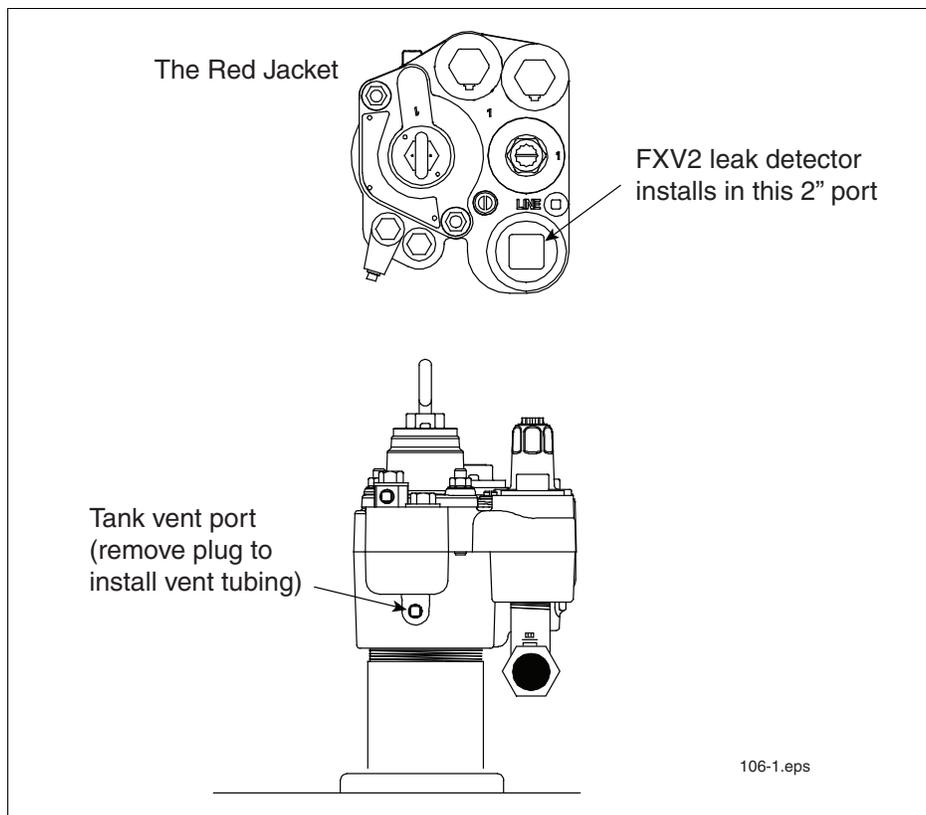

Figure 2. FXV Installation ports in The Red Jacket
1. Remove the two-inch plug from the top of the Standard pump (see Figure 2 for The Red Jacket leak detector installation ports and see Figure 5 for the Standard pump). If the two-inch plug is found to be so tight that cannot be removed, the submersible should be removed from the tank and placed in a vise. Remove the functional element assembly next to the pipe plug. The plug should then come out readily if a large pipe wrench is used. Replace functional element assembly securely and replace the pump in the tank. (See Step 3 before replacing pump).
- a. Remove 1/4-inch pipe plug from tank test port (on 6-inch Big-Flo applications, remove the 1/4-inch pipe plug from the riser/flange assembly, for The Red Jacket pumps, see Figure 2 and for the Standard pump see Figure 5).